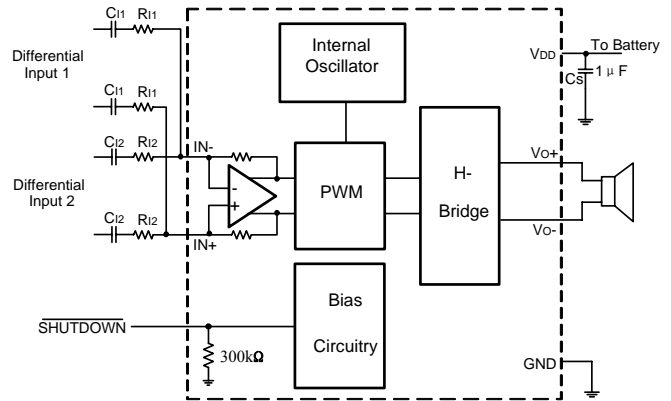

Figure 16 Application Schematic with SN2005 Summing Two Differential Inputs
Two extra resistors are needed for summing differential signals. The gain for each input source can be set independently (see equations (4) and (5), and Figure 16).